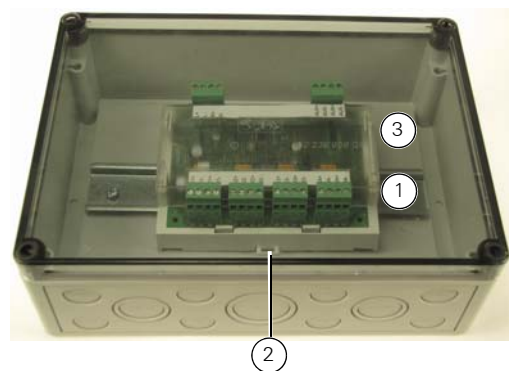

Fig. 2: FC410QMO Module fitted in the optional IP66 rated enclosure
A suitable enclosure can be ordered under part number 557.201.410. This is rated to IP66, and supplied complete with a mounting plate (Item 3 in Figure 2) and a piece of DIN rail.
Snap the FC410QMO module onto the DIN rail with the release clip protruding. The complete assembly is as shown in Figure 2.
If you need to remove the module from the rail, pull the DIN rail release clip (see item 2 in Figure 2).